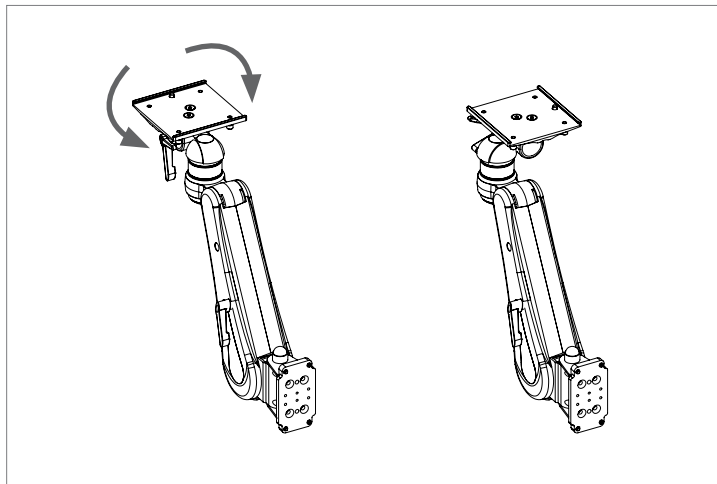

Figure 1
1. The mounted device rotates at the front of the arm. To rotate the device, push the corners of the device or the head while holding the AHM in place (**Figure 1**).